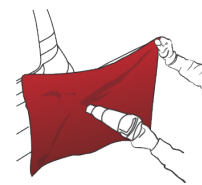
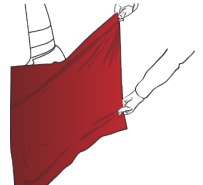
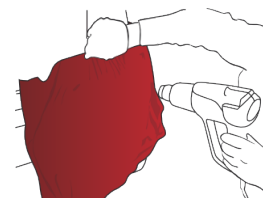

Figure 23
Figure 24
Figure 27
- › Heat the vinyl (FIG. 23) to a temperature ranging from 30 °C to 40 °C (from 86 °F to 104 °F), then stretch the film so as to completely wrap the convex surface. (FIG. 24)
- › After this operation, heat to a temperature ranging from 30 °C to 40 °C (from 86 °F to 104 °F) (FIG. 27) and work the memory effect of the film to eliminate all folds using the squeegee.
**!** *Take particular care when heating the stretched film (FIG. 23) (FIG. 27). The hot air gun or the blow torch must never be held at a right angle to the surface of the film. It should be inclined so as to heat a larger surface area. Keep the hot air gun moving all the time. Heating the film from a reduced distance and over a prolonged time may irreversibly damage the film.*